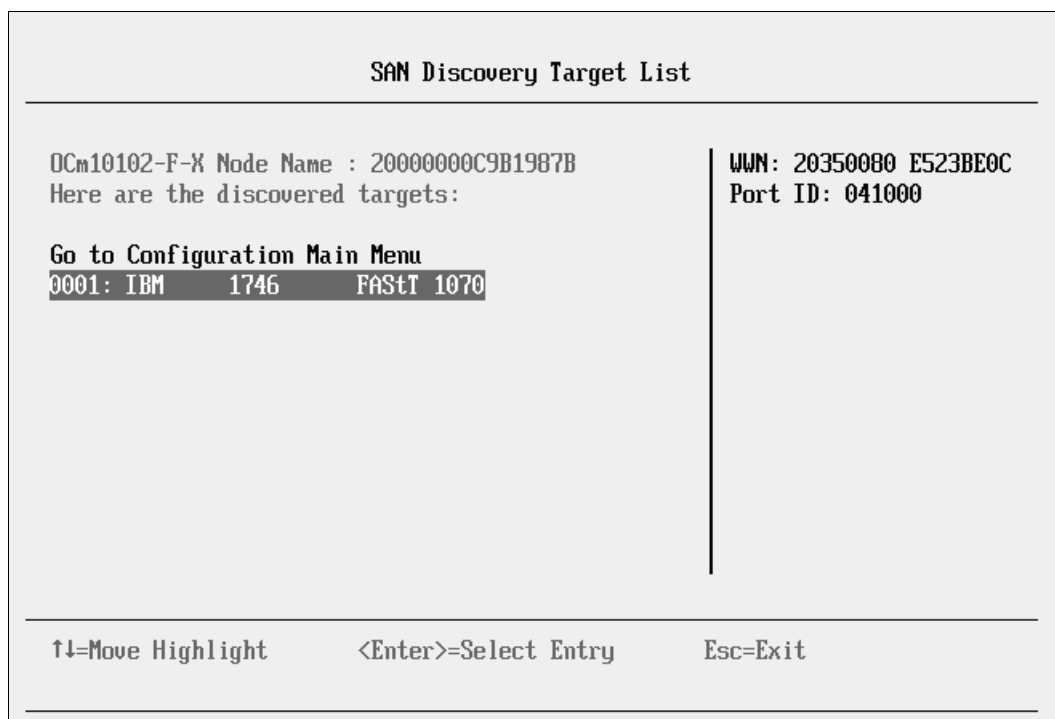

Figure 9-121 SAN Discovery Target List panel
15. In the SAN Discovery Target List panel (Figure 9-121), select your storage device. If you do not see any storage devices here, see “Storage devices not shown” on page 367. Then press Enter.